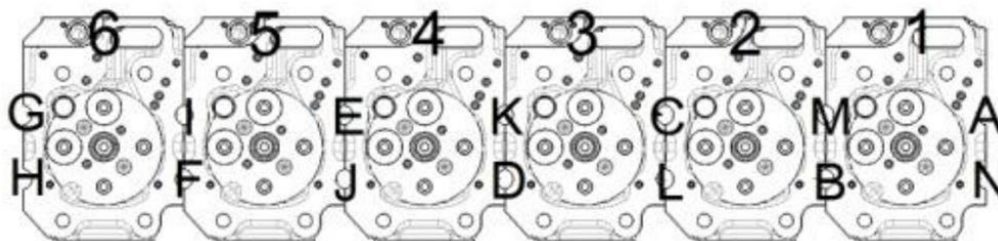

Figure 59. Cylinder Head Removal Order
1. Loosen the cylinder secondary bolts in the following order A-N (Figure 59).